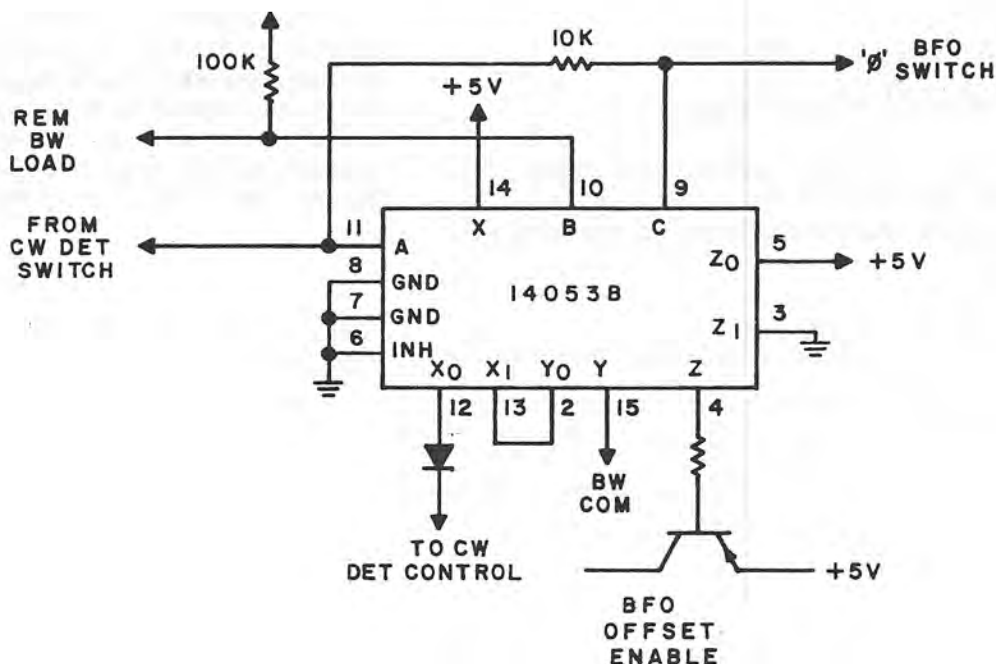

Figure 3-27. Front Panel Interconnect Integrated Circuit
a. Switch and Control Function. Inputs from the front panel controls are received through J1 and outputs go to the interior circuitry through XA2. As can be seen from the schematic diagram, most of the lines from the front panel are simply passed through to the rest of the receiver. For these lines, this module serves as a patch panel. Decoding for the if, bandwidth and detection mode front panel selections is implemented through diodes CR1 through CR10 and multiplexers U1 and U2. Figure 3-27 is a diagram of this multiplexer integrated circuit. This ic performs as three